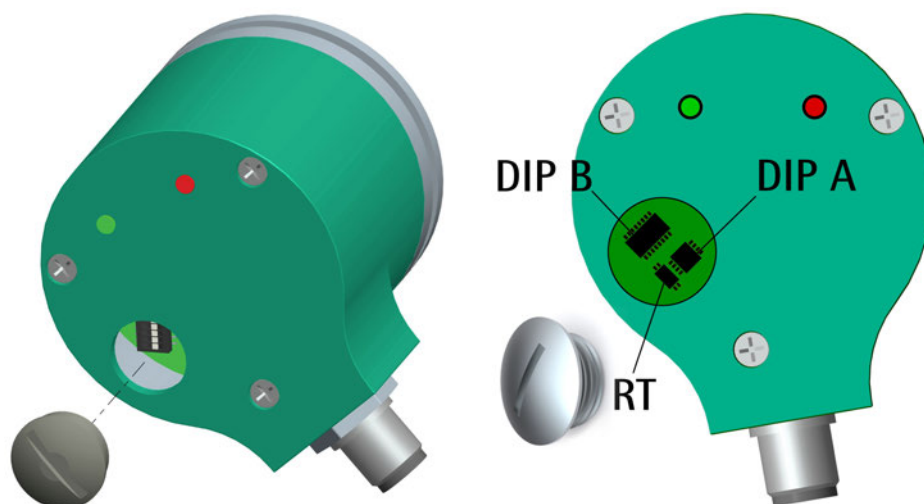
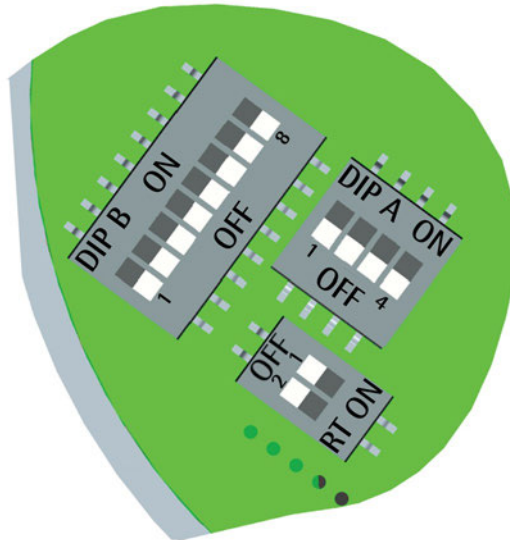

Figure 2: Reaching the DIP switches
Figure 3: DIP switches
4.5 DIP switches (Figure 2 and Figure 3)
4.5.1 Setting data transmission rate: Baud rate and Parity bit (Figure 3)
4.5.2 Setting the node address (Figure 3)
4.5.3 Termination resistor (Figure 3)
- check the data transmission rate (baud rate and parity bit; see the "4.5.1 Setting data transmission rate: Baud rate and Parity bit (Figure 3)" section on page 27); the default value set by Lika Electronic at factory set-up is "baud rate = 19200 bit/s, parity = Even";
- set the node address, if required (node ID; see the "4.5.2 Setting the node address (Figure 3)" section on page 29); the default value set by Lika Electronic at factory set-up is "1";